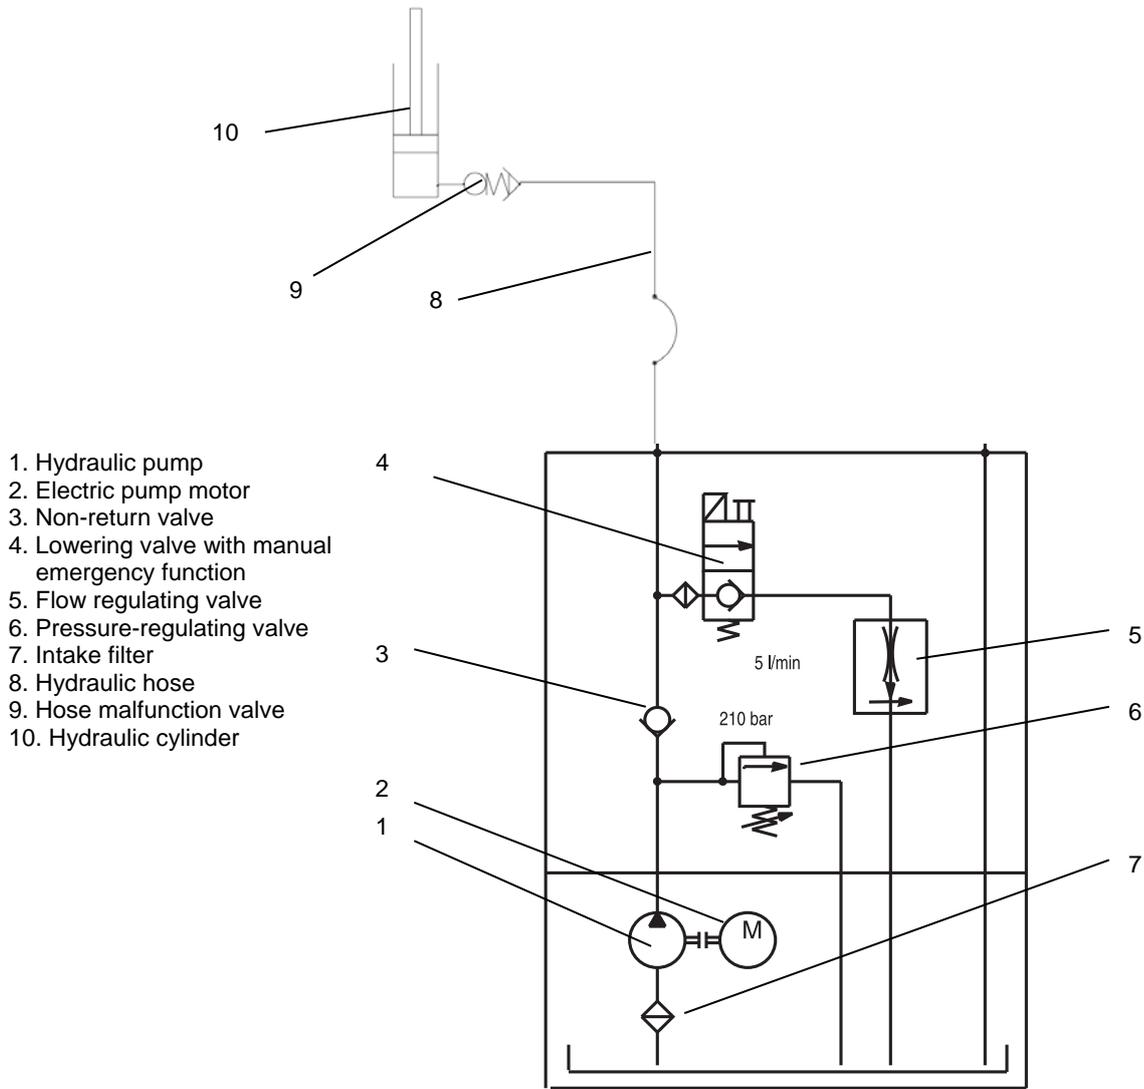

Figure 1.3 Hydraulic flow chart
The pump has a built-in pressure-regulating valve (6), see Figure 1.3, which prevents overloading. If pressure should become excessive, the pressure-regulating valve shunts oil back to the tank. The valve pressure setting is done at the factory and the valve is sealed. If oil pressure becomes excessive (overloading), the sound of the pump changes markedly.
The hydraulic cylinder has a hose malfunction valve (12), see Figure 1.3, built into the lower end of the cylinder. This valve causes the lift to lock up entirely or sink slowly in the case of a break in the hydraulic hose or other leakage.